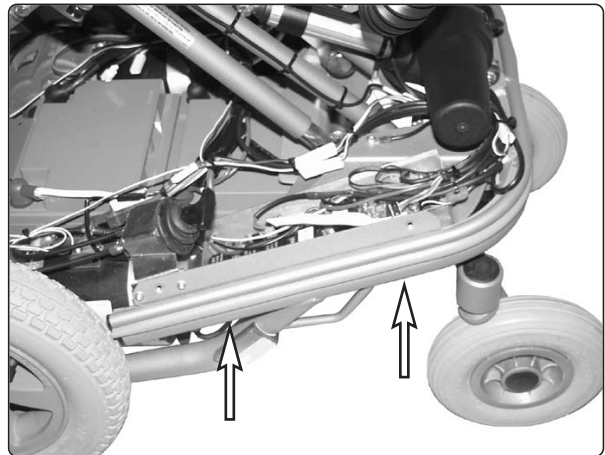

Fig. 46. The box containing the SLS driver stage and the actuator control board is attached by two screws from underneath.
6. Remove the box that contains the SLS driver stage and actuator control board, it is attached by two screws from underneath, see fig. 46.